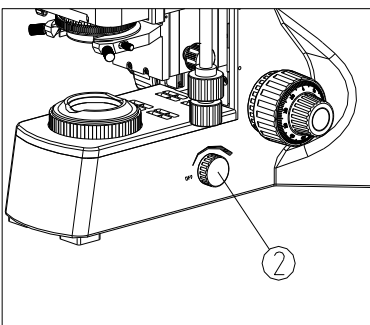

Fig.19
(3) For reflected illumination, rotate the light adjustment knob ② clockwise until a sound of “DiDa” is heard, turn on the up illumination light source, then adjust the light adjustment knob ② until the illumination is comfortable for observation. (See Fig. 19)